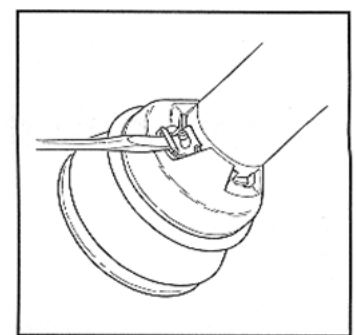

Figure 99: Remove Tab
1. Remove the EASY LOCK[®] tab with a screwdriver (Figure 99).